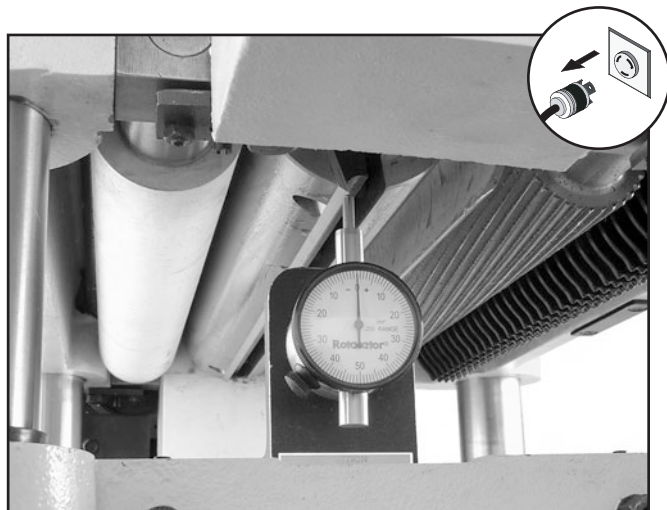

Figure 38. Finding BDC with the Rotacator.
5. Using your Rotacator, find BDC of any knife edge by slowly rocking the cutterhead pulley back and forth, and set the Rotacator dial to zero, as shown in **Figure 38**.